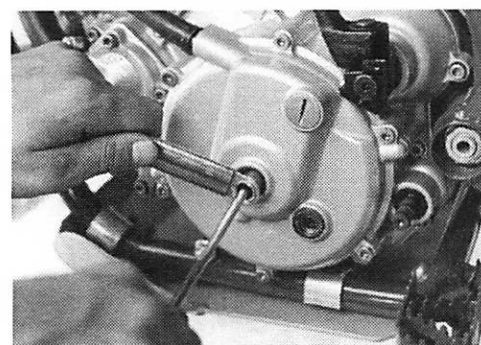

Figure 4.4
3. Using the clutch adjustment tool included in the tool kit and a flat blade screwdriver, loosen the 11 mm adjustment screw. (Figure 4.4)